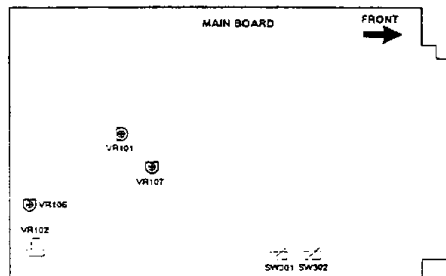

Figure 4-1 Location of on Main board
1. Input a cross hatch pattern in 81.25kHz (1600X1200) mode and adjust VR101 on the main board (see figure 4-1 for approximate location) so the high voltage is in the range $27kV \pm 0.3$.
VR102 (see Figure 4-1 for approximate location) so that the voltage of G1 read on a digital multimeter is $-45V \pm 1$.
3. Before carrying out white balance adjustment, make sure that the VR106 (see Figure 4-1 for approximate location) position shall be turn counterclockwise to the end (ABL no action).
4. Before carrying out white balance adjustment, make sure that the internal contrast VR107 (see Figure 4-1 for approximate location) shall be turn to the center position.